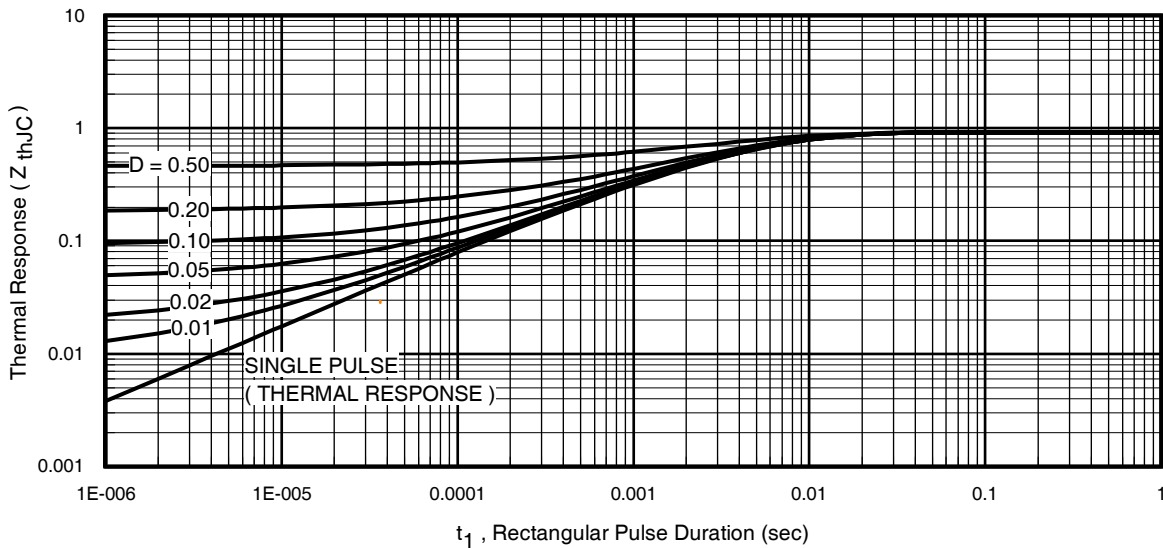
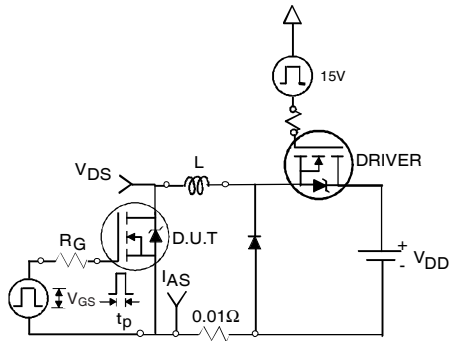

Fig 11. Maximum Effective Transient Thermal Impedance, Junction-to-Case
Fig 12a. Unclamped Inductive Test Circuit
- ① Repetitive rating; pulse width limited by max. junction temperature. (See fig. 11).
- ② Limited by T_{Jmax} , starting $T_J = 25^\circ\text{C}$, $L = 0.27\text{mH}$, $R_G = 25\Omega$, $I_{AS} = 35A$, $V_{GS} = 10V$. Part not recommended for use above this value.
- ③ $I_{SD} \leq 35A$, $di/dt \leq 380A/\mu s$, $V_{DD} \leq V_{(BR)DSS}$, $T_J \leq 175^\circ\text{C}$.
- ④ Pulse width $\leq 1.0\text{ms}$; duty cycle $\leq 2\%$.
- ⑤ $C_{oss \text{ eff.}}$ is a fixed capacitance that gives the same charging time as C_{oss} while V_{DS} is rising from 0 to 80% V_{DSS} .
- ⑥ Limited by T_{Jmax} , see Fig.12a, 12b, 15, 16 for typical repetitive avalanche performance.
- ⑦ This value determined from sample failure population. 100% tested to this value in production.
3. Equation below based on circuit and waveforms shown in Figures 12a, 12b.
$Z_{thJC}(D, t_{av})$ = Transient thermal resistance, see figure 11)